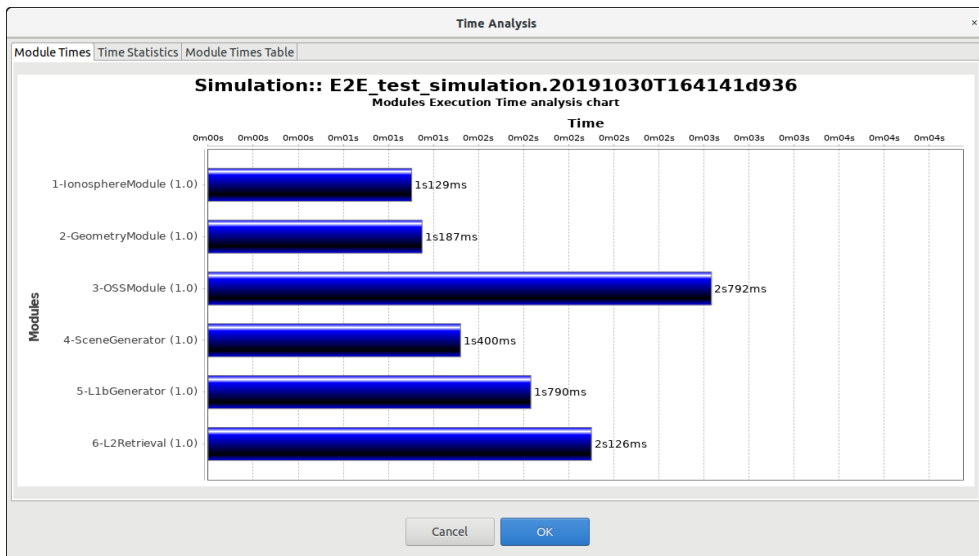

Figure 4-67: Bar graph showing module times
- *Module Times* tab: presents the module execution time in a bar chart graph¹⁰. See Figure 4-67.